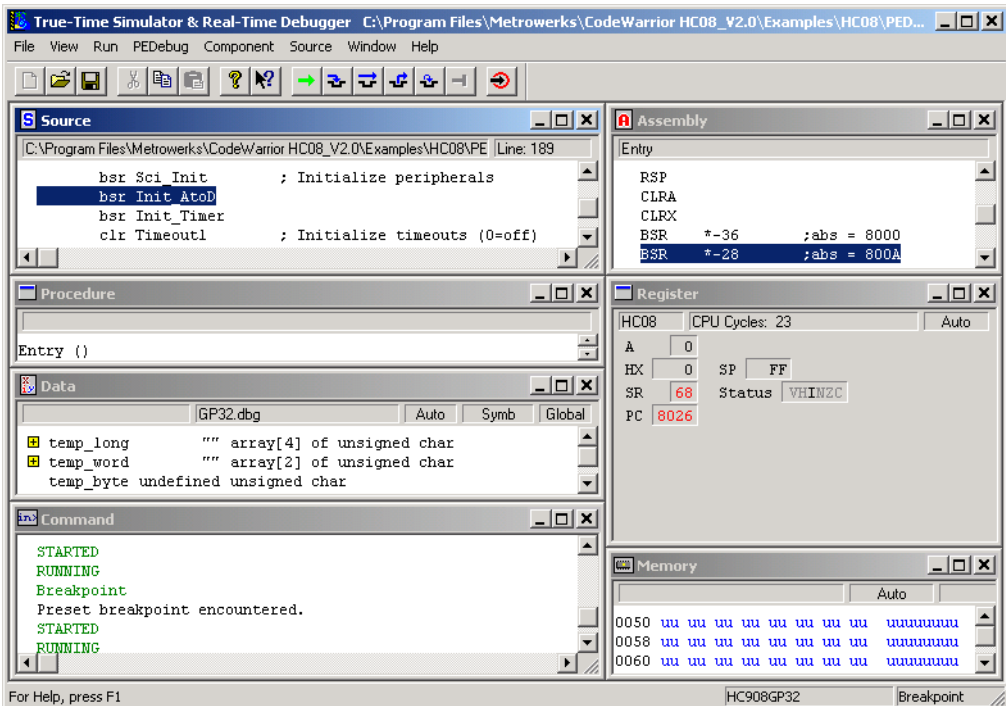

Figure 7-5: True-Time Simulator & Real-Time Debugger Window
4. Click the Debug icon (green arrow). The True-Time Simulator and Real-Time Debugger launches. See **Figure 7-5**.